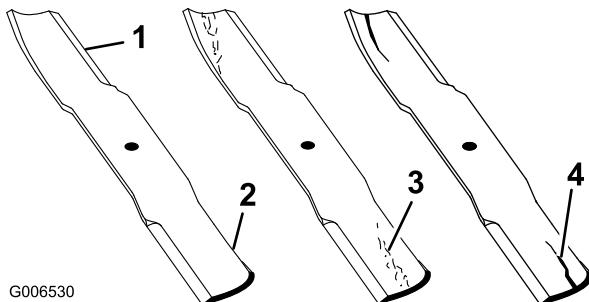

Figure 85
1. Inspect the cutting edges (Figure 85).
If you notice any damage, wear, or a slot forming in this area (Figure 85), immediately install a new blade.
2. Inspect the blades, especially the curved area (Figure 85).